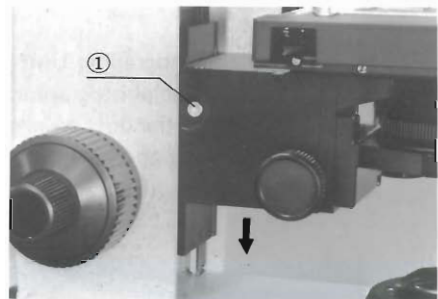

Fig. 19
with the Allen wrench provided and retightening it at the upper position. Then, dislocate the lower limit stop pin beneath the stage block into a lower tapped hole. After lowering the stage block, reclamp the stage block locking screw ①. (Fig. 19)